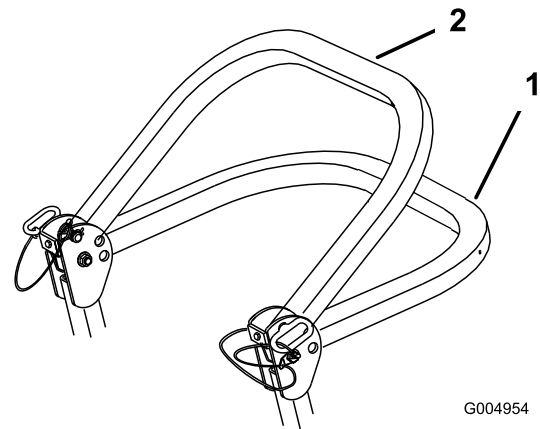

Figure 9
2. Lower the roll bar to the down position (Figure 9).
Note: There are 2 down positions; refer to Figure 9.